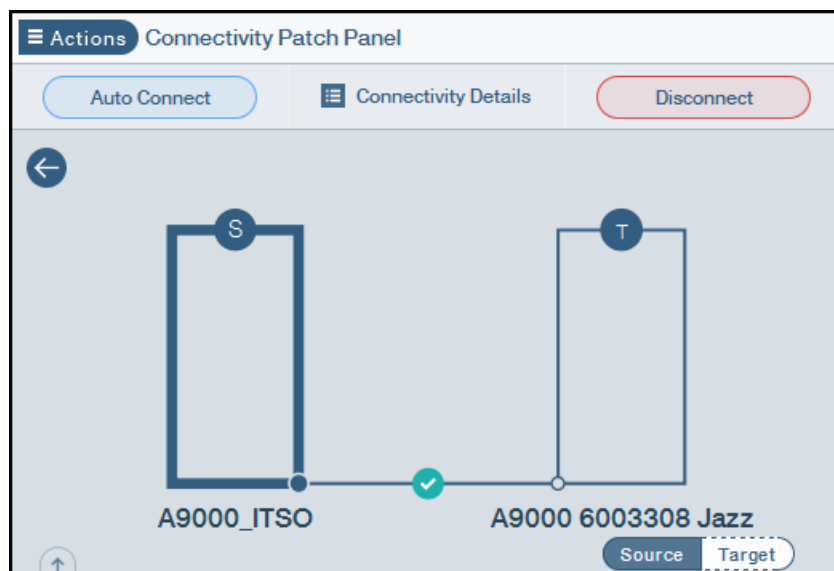

Figure 3-4 Connectivity between two A9000
1. Confirm that both the source and destination IBM FlashSystem A9000 are configured and accessible in the IBM Hyper-Scale Manager and that there is FC connectivity between these systems. Figure 3-4 shows the source and destination systems with confirmed connectivity between the two systems.